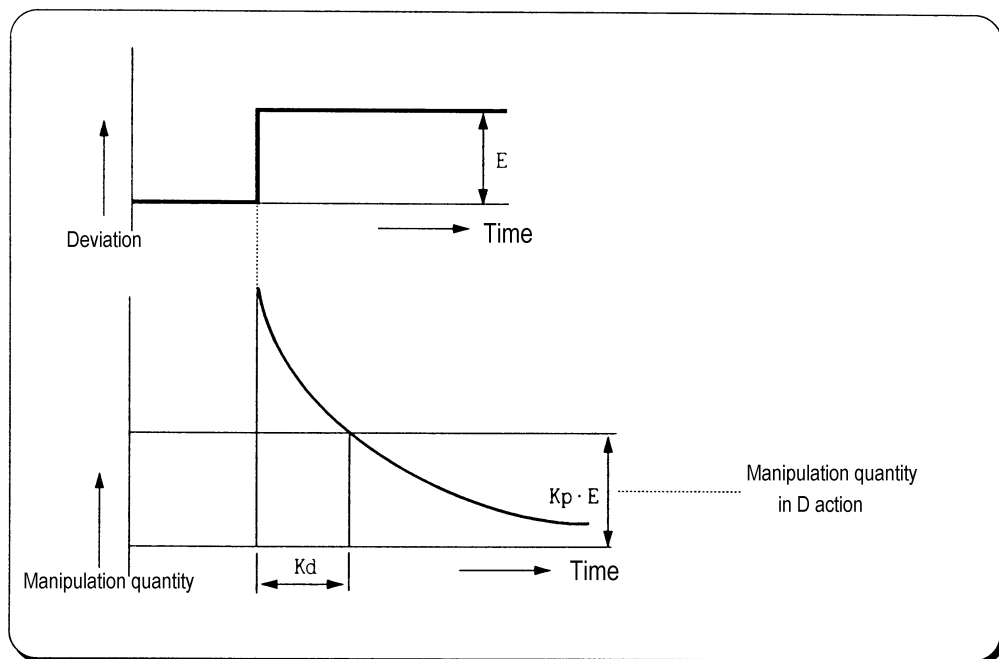

Fig. 2-7 Derivative action with a constant deviation
- (g) The D action when a constant deviation occurred is shown as Fig. 2.7.